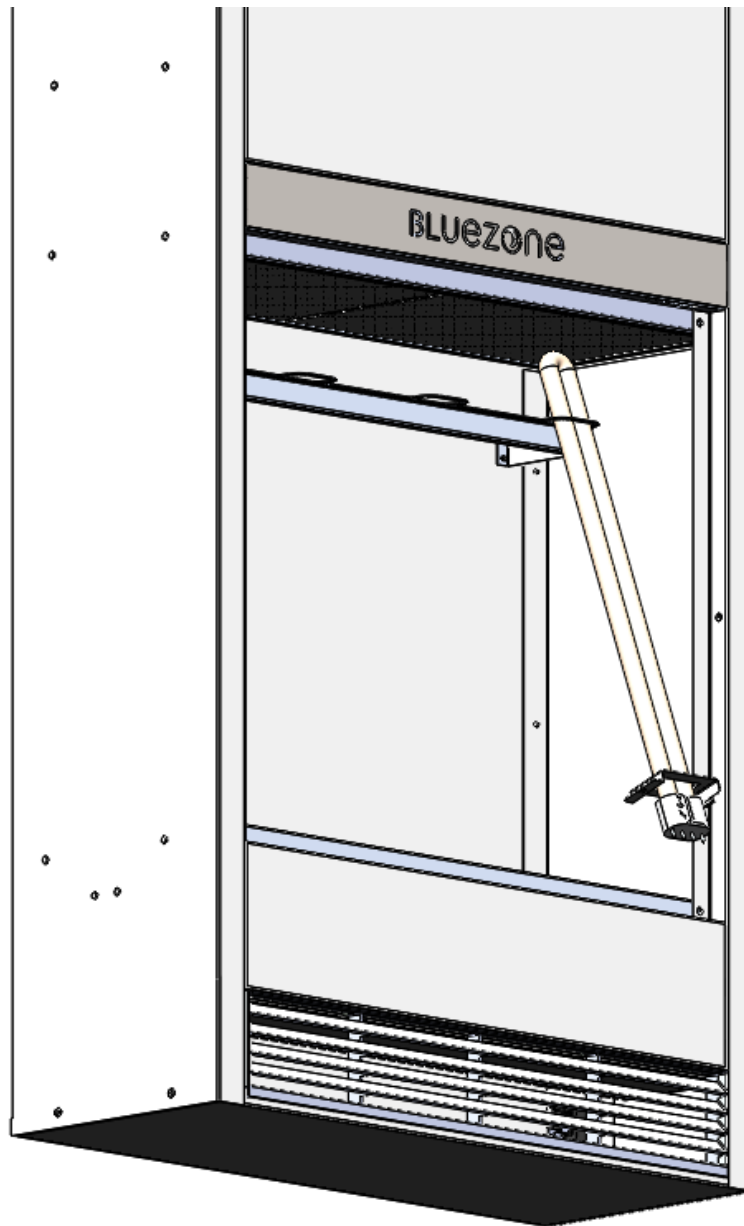

Figure 21: Slide Bulb with Bulb Clip into the Bulb Support Bracket
- 10) Slide the top end of the bulb into the bulb support bracket. See Figure 21.